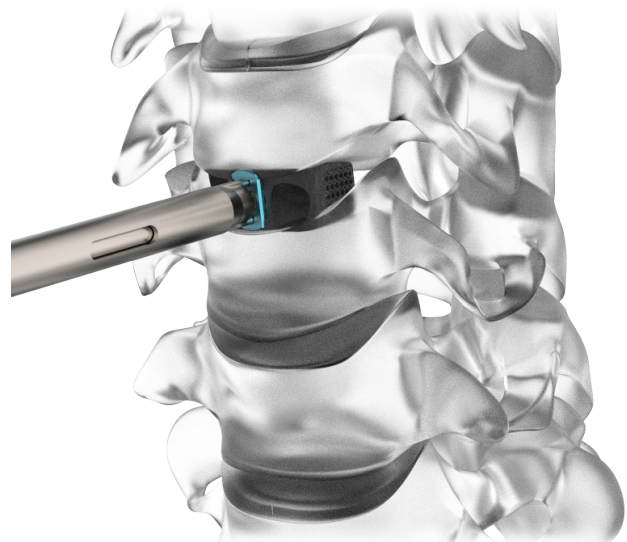

Figure 7
- Introduce the Cage into the disc space, mallet when necessary (Figure 7).